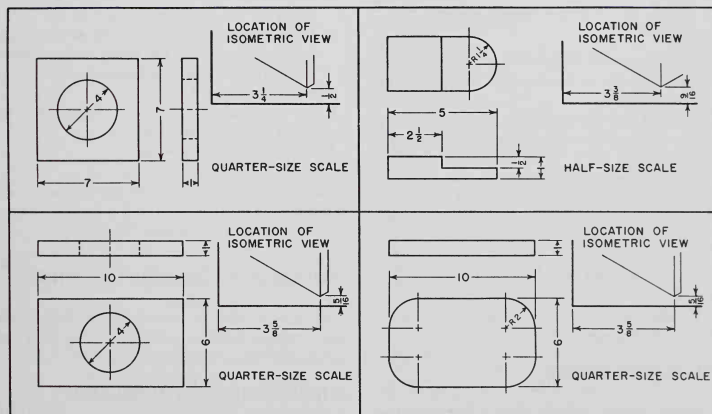

Fig. 8-8. Isometric circle and arc problems.
1. In sections C and D, draw the isometric views of two of the problems shown in Fig. 8-8, as assigned by your instructor.